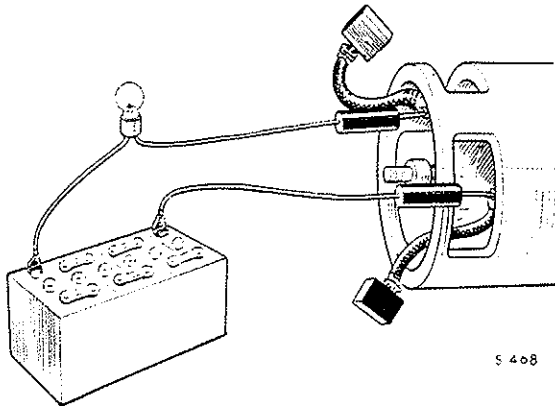

Fig. N.27. Testing field coil continuity
1. **To Check.** Test the field coils for continuity by connecting a 12 volt battery with a 12 volt bulb in series between the tapping points of the field coils, at which the brushes are connected. Failure of the lamp to light indicates an open circuit in the wiring of the field coils (see Fig. N.27).